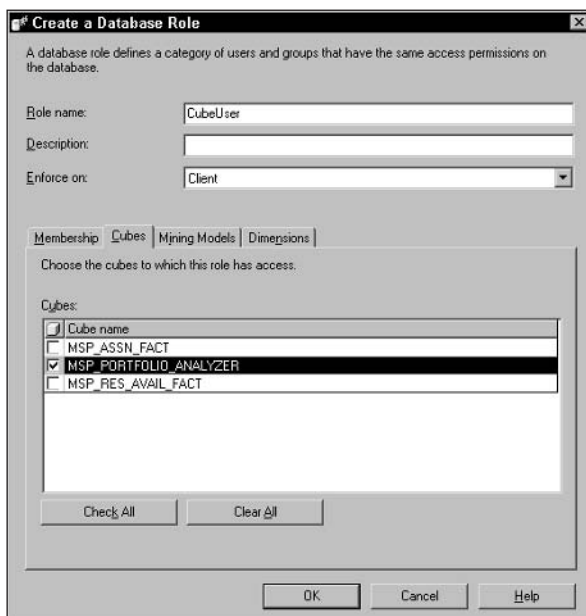

Figure 19-60: Select the cube to which you want to add the role.
9. Click the Cubes tab of the Create a Database Role dialog box (see Figure 19-60), and select the MSP_PORTFOLIO_ANALYZER check box. Then click OK.